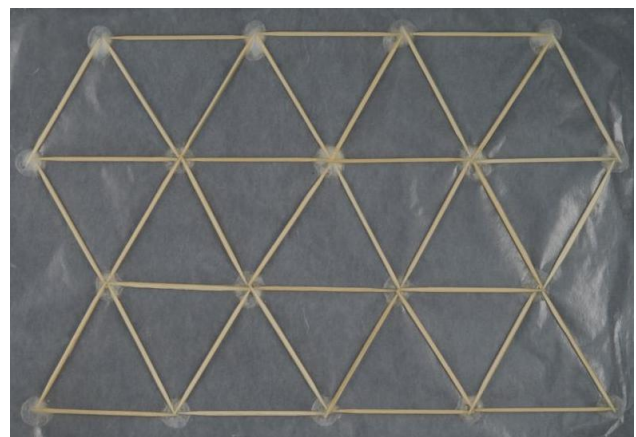

Figure 6. Toothpicks glued together on wax paper into a triangular pattern.
2. Glue the toothpicks together into a triangular pattern as shown in Figure 6. The glue will stick to the wax paper as well but this is ok, it will peel off after drying.